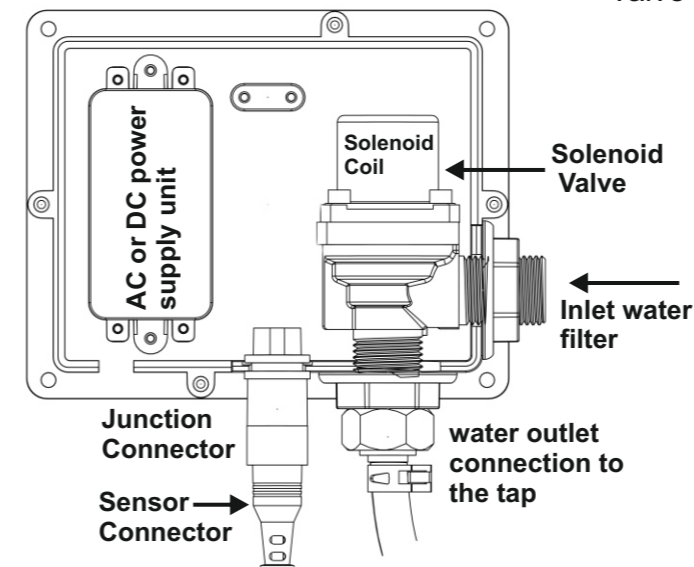

Figure 4
- 6) Solenoid valve and the power supply unit are located inside the control box as shown in Figure 4. Solenoid valve controls the water flow to the sensor faucet. The power supply unit in case of electrically operated versions (models with suffix 'E') is fitted with a power supply cord to be connected to the wall socket. In case of battery operated versions (models with suffix 'B'), it has a battery box for 4 'AA' alkaline batteries.
- 1) The sensor is located at the tip of the faucet. First remove the sensor connector fitted to the junction connector in the control box as shown in Figure 4. Loosen the screw / allen bolt holding the sensor and aerator assembly as shown in Figure 5. Once it is loosened, pull out the sensor along with the wire through the conduit pipe.